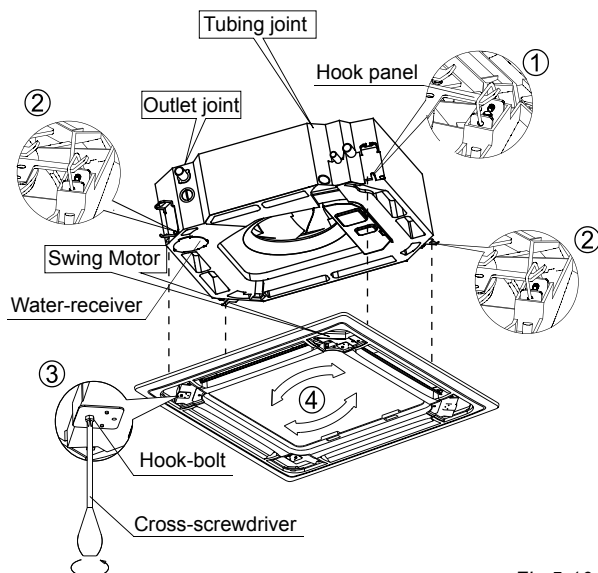

Fig.5-10
- Align the swing motor on the panel to the tubing joints of the body properly. ( Refer to Fig.5-10)